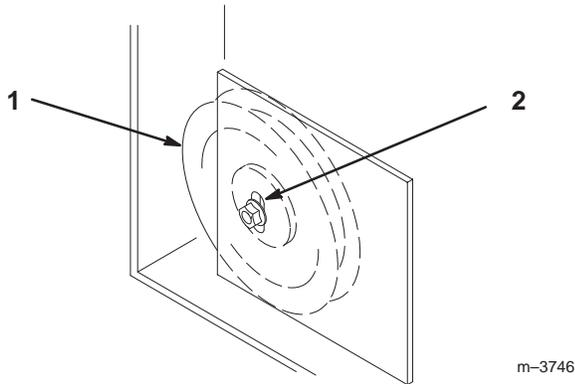

Figure 61
9. If an adjustment is required, loosen the fixed idler on the right support plate and move it up or down in the adjustment slot (Fig. 61). To relieve the belt tension, lift up on the spring loaded idler.